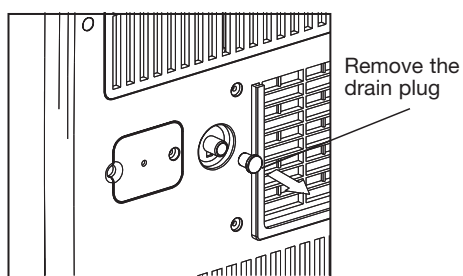

Fig. 6
- During Cooling and dehumidifying modes, remove the drain plug from the back of the unit, then install the drain hose and place the open end of the hose into any vessel such as bucket. Please refer to Fig.6 & 6a.